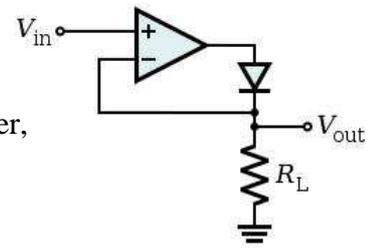

Figure 16
- 1- Construct the circuit shown in Figure 16 using $R_L=1k\Omega$.